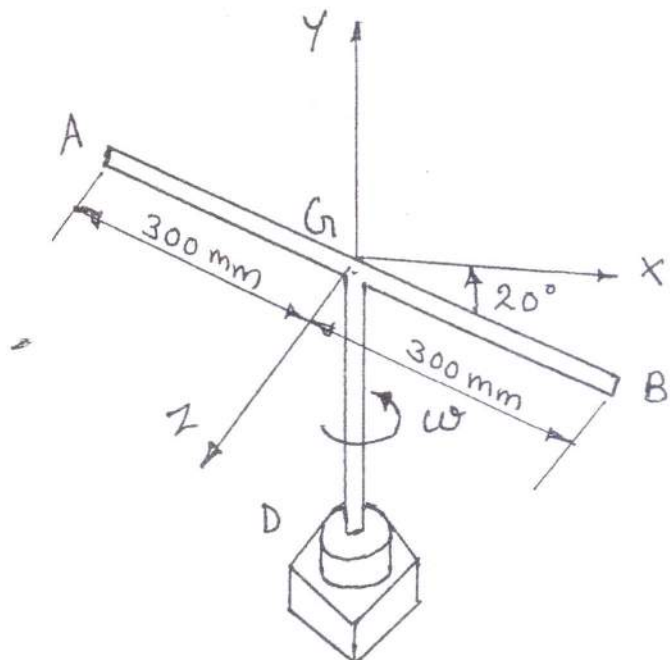

Fig. 4
8. A uniform rod AB of 1.8 kg is welded at its mid point G to a vertical shaft GD as shown in fig. 4. If the shaft rotates with an angular velocity of  $\omega = 1200$  r.p.m (constant), determine the angular momentum HG of the rod about G.